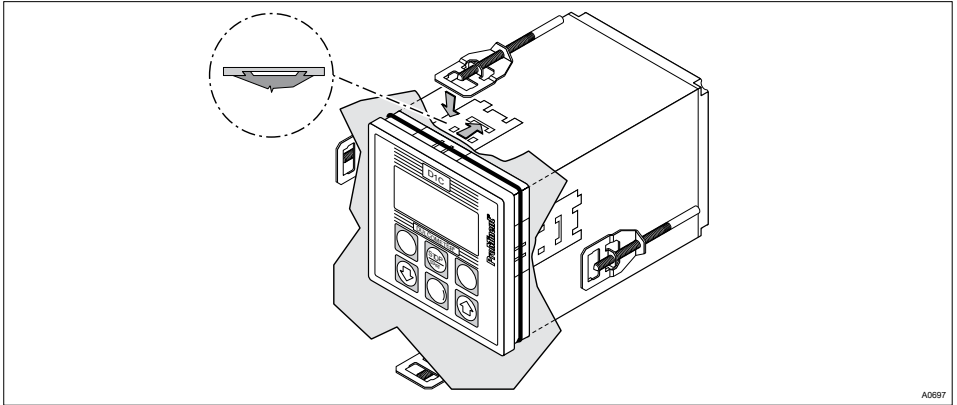

Fig. 17: Screw the studs forward
8. ➔ Using a suitable screw driver, screw the studs forwards, see Fig. 17, until the seal is completely and uniformly compressed